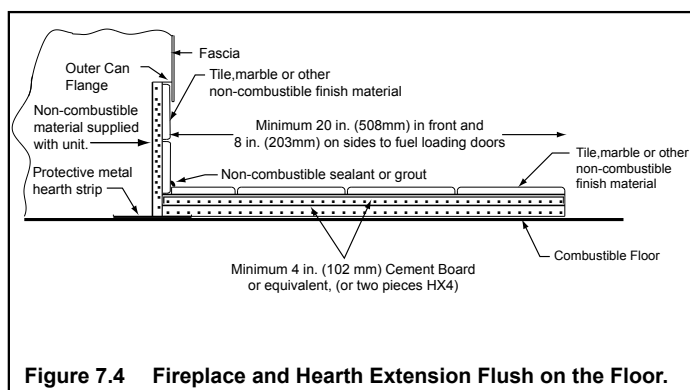

Figure 7.4 Fireplace and Hearth Extension Flush on the Floor.
- Refer to Figure 7.4 for minimum dimensions.
The construction of, and materials used for a hearth extension are shown in Figure 7.4. A hearth extension of this construction may be covered with any non-combustible decorative material and may have a minimum thickness as per Figure 7.4. Seal gaps between the hearth extension and the front of the fireplace with a bead of non-combustible sealant or grout.